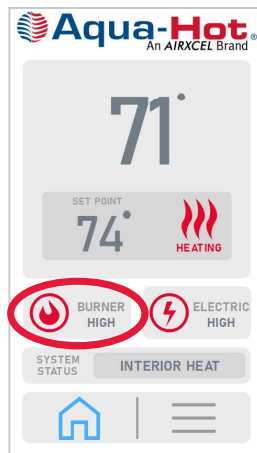

Figure 70
7. Turn the burner on HIGH at the screen (see Figure 70). The burner should cycle on because of the primed fuel lines.